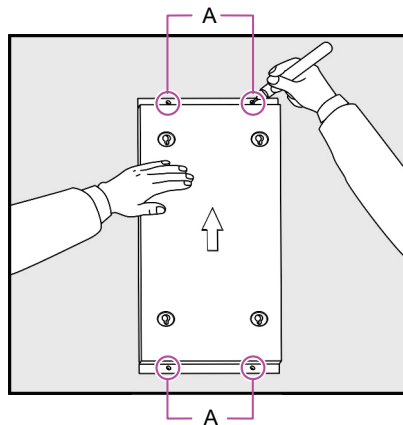

Figure 2.7 Wall Installation (1)
- 1) There are four screw holes (see [A] Figure 2.7) on the wall bracket as shown below. Mark the four screw holes where the wall bracket should be installed.